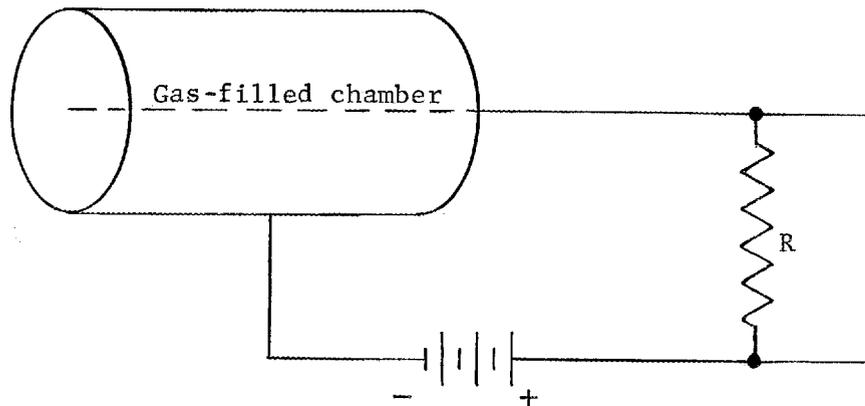

Fig. V-40. Diagram of Simple Ionization-Chamber Circuit
1. Radiation is detected by a number of instruments such as electroscopes, ionization chambers, scintillation crystals, and cloud chambers. We shall confine our study to ionization (or ion) chambers because almost all radiation detection devices for reactor applications make use of such chambers. A typical chamber, illustrated in Figure V-40, is a gas-filled can with a metal conductor (wire) located in the center of the can and insulated from the conducting wall of the can.